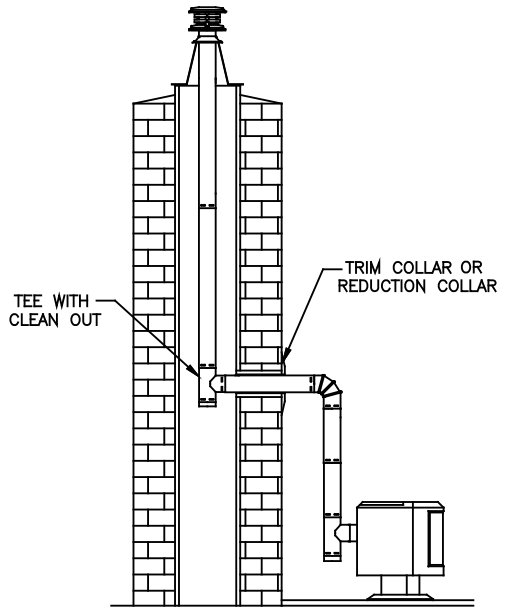

Figure 26
- B. A Tee Section is installed at the bottom end of the vertical pipe (**Figure 26**).